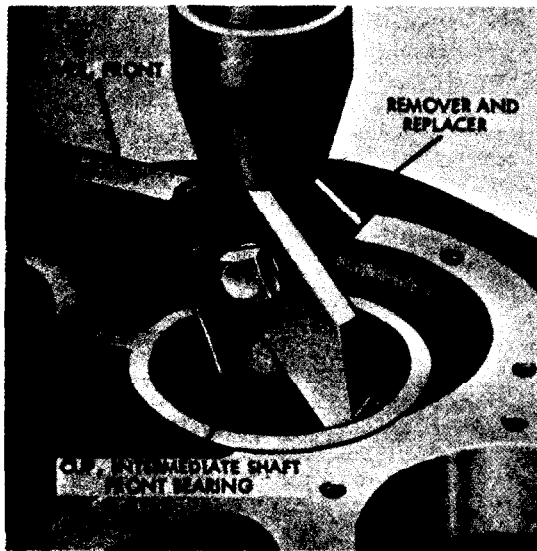

Figure 228. Bearing cup removal
(b) To remove bearing cups, insert bearing cup remover and replacer in bearing cup (fig. 228), and remove bearing cups from cover and case.
(c) A larger remover and replacer 5120-795-0159 (fig. 228) is required to remove the rear output shaft front bearing cup in the front cover.
(1) *Bearings and bearing cones* (fig. 228). When a bearing or bearing cone has been cleaned and dried, take it in hand and revolve it slowly. Inspect for pitting, scoring, or excessive wear. Replace any assembly which shows damage or wear. Bearings and bearing cones, which are to